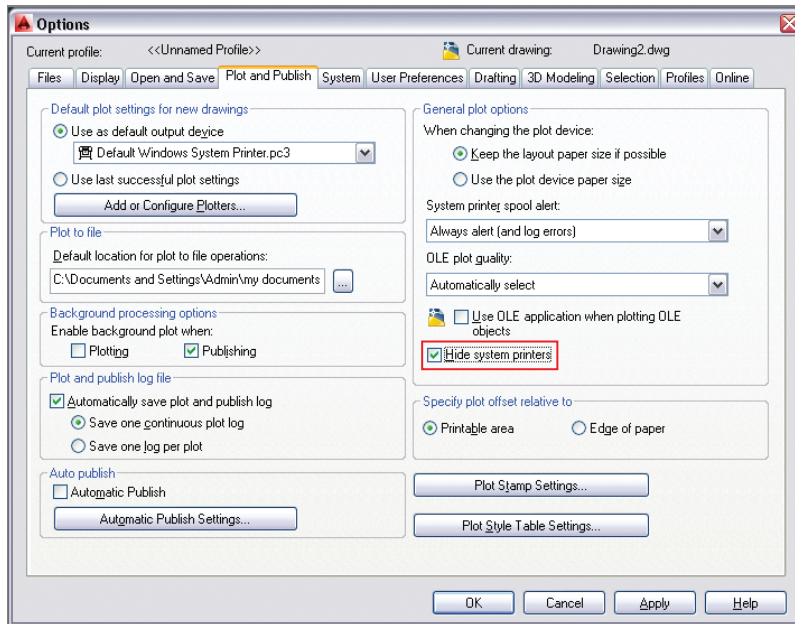

FIGURE 14.22 Hiding the system printer drivers in the Options dialog box
4. Select the Plot And Publish tab. Select Hide System Printers in the General Plot Options area (see Figure 14.22). Click OK.